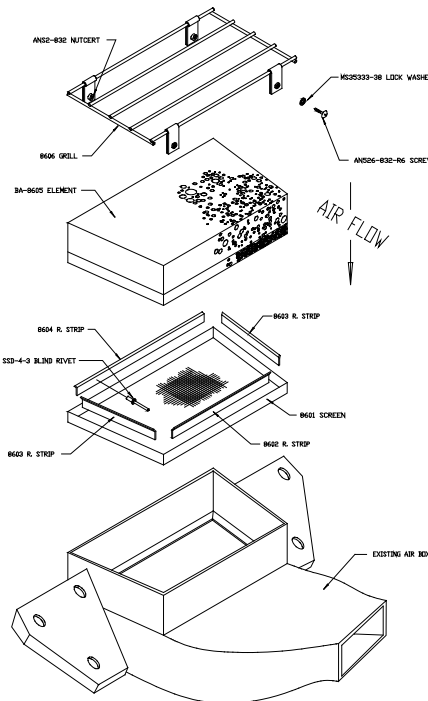

Fig 1
- Step 2. Install screen BA-8601 with bent flanges forward (see Fig. 1)